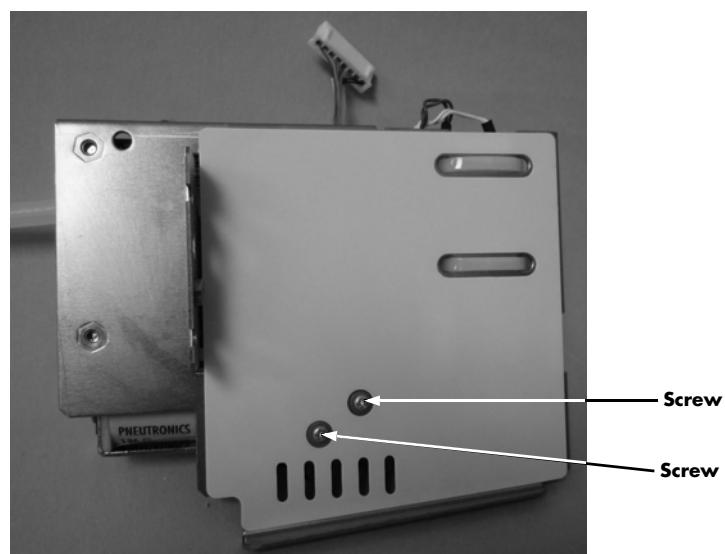

FIGURE 4-36 Remove two (2) screws.
3. Remove the two (2) screws on the bottom of the NIBP rack as shown in FIGURE 4-36.